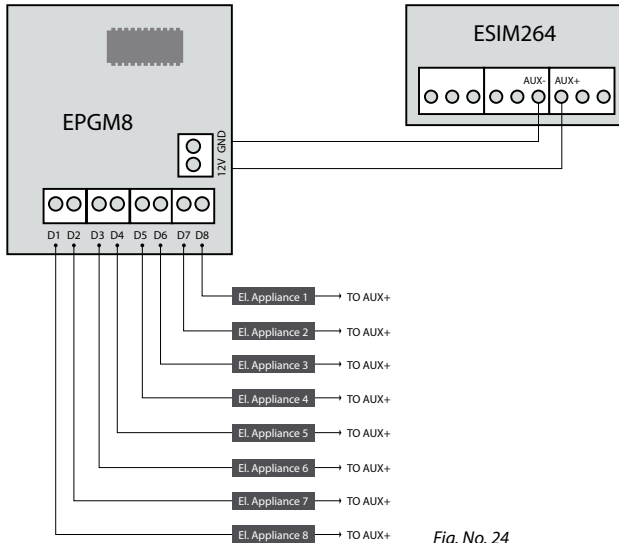

Fig. No. 24
3. Connect EPGM8 **12V** positive power supply contact with ESIM264 alarm system **AUX+** contact and EPGM8 GND contact with ESIM264 alarm system **AUX-** contact. (see Fig. No. 24).
4. Connect the electrical appliances to D1 – D8 PGM outputs. (see Fig. No. 24).